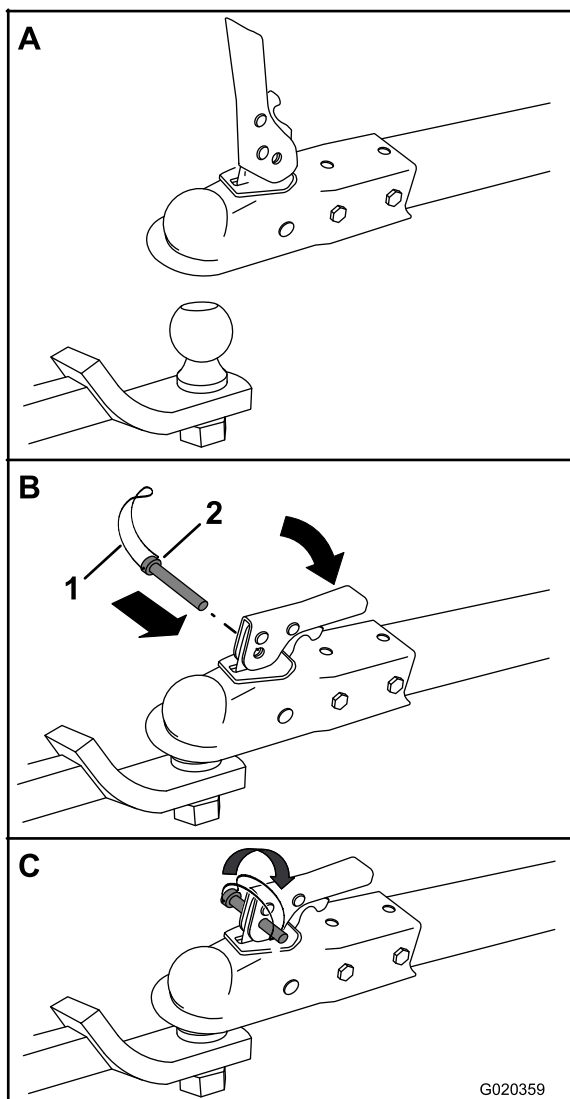

Figure 22
- Open the coupler latch (Figure 22).
- Position the coupler on top of the hitch ball (Figure 22).
- Close the coupler latch (Figure 22).
- Open the bail on the safety pin, and insert the pin through the hole in the latch (Figure 22).
- Rotate the free end of the bail over the end of the safety pin that is protruding through the latch (Figure 22).